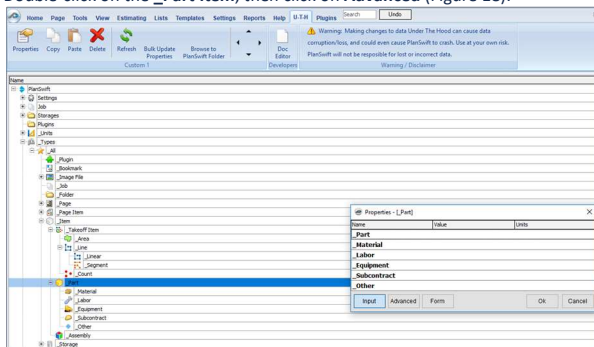

Figure 18
18. Double-click on the **_Part Item**, then click on **Advanced** (Figure 18).